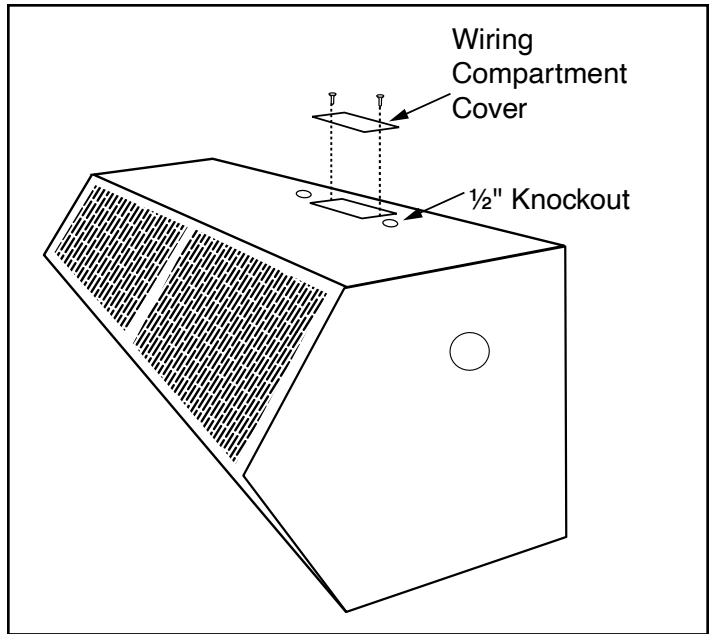

FIGURE 7 - Electrical Connections
- C. Remove the wiring tray cover; on air curtains that are comprised of modules, remove the wiring tray cover that is located closest to the electrical rating nameplate (if it has not already been done). **See FIGURE 7.**